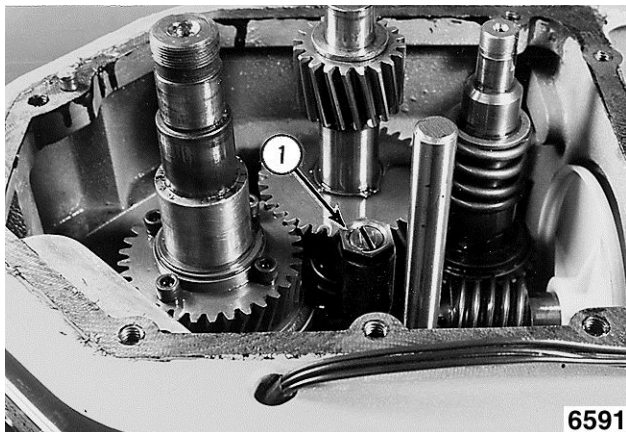

Fig. 47
- 1) Carefully remove lower shifting yoke [1] Fig. 47.